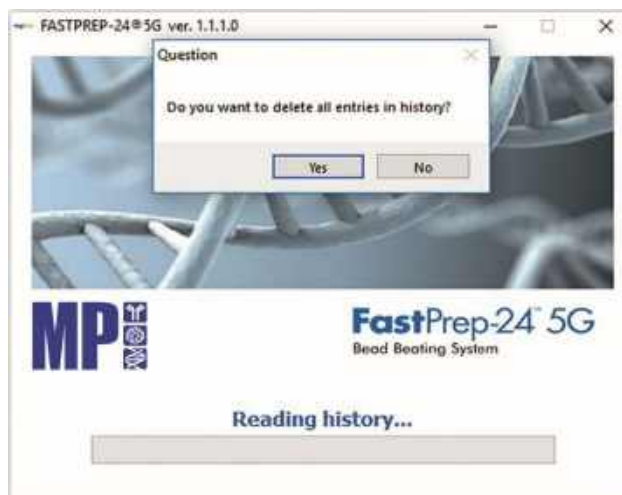

Figure V-37: Purge History using FastPrep-24™ 5G Host Application
7. The FP-24 5G Host Application then prompts for the purging of stored data from the FP-24 5G by displaying the message "Do you want to delete all entries in history?" \(Figure V-37\). Press [YES] to clear the data history cache or [NO] to continue storing data.